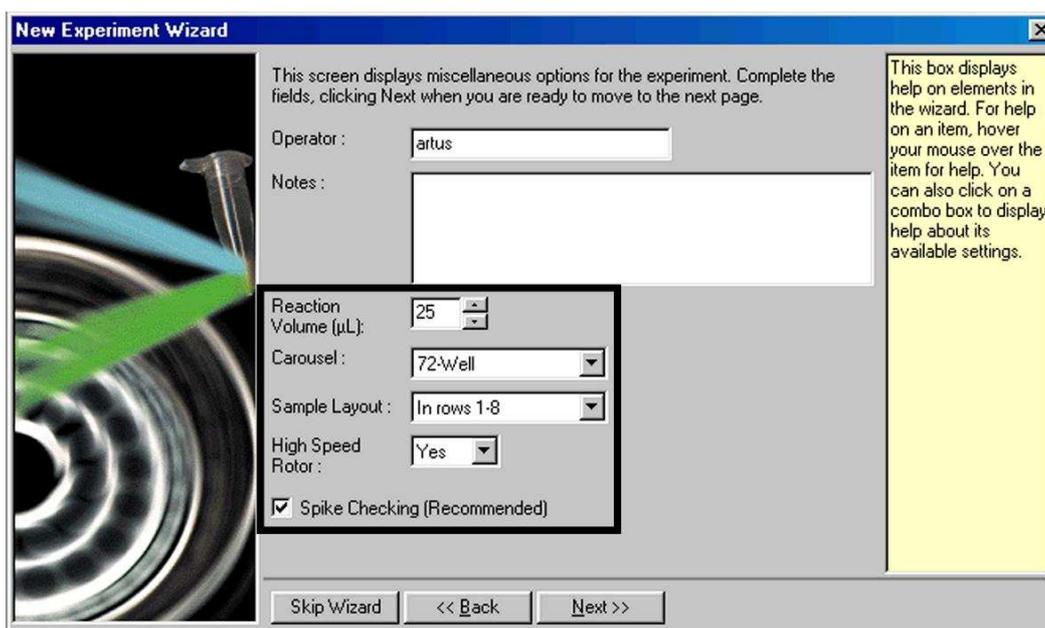

Fig. 3: Setting of General Assay Parameters.
For the detection of DNA of all members of the *M. tuberculosis* complex, create a temperature profile on your *artus 3000*TM or *Rotor-Gene*TM 3000 according to the following five steps (see Fig. 3 - 7).
- A. Setting of General Assay Parameters Fig. 3
First, enter the PCR reaction volume in the menu window *New Experiment Wizard* (see Fig. 3).